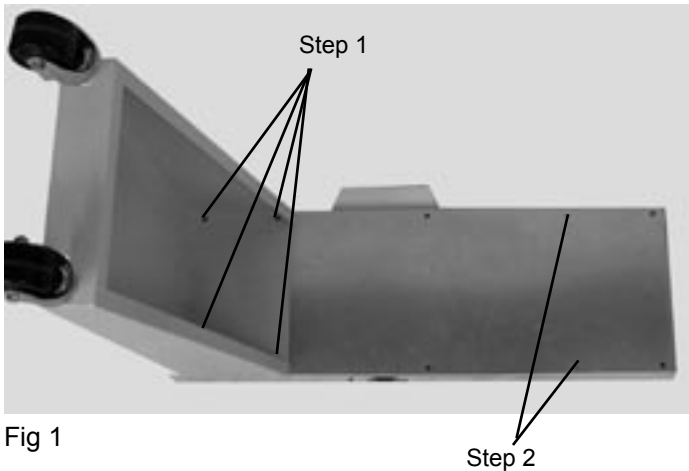

Fig 1
1. Turn conveyor over and remove the four screws to the far left of the control panel with a 3/8" allen wrench. Then attach the conveyor leg using the same four screws (Fig 1).
2. With the conveyor still turned over remove the second to last set of screws that are located to the right of the control panel (These screws will be used to attach the conveyor to the mounting bracket) (Fig1).